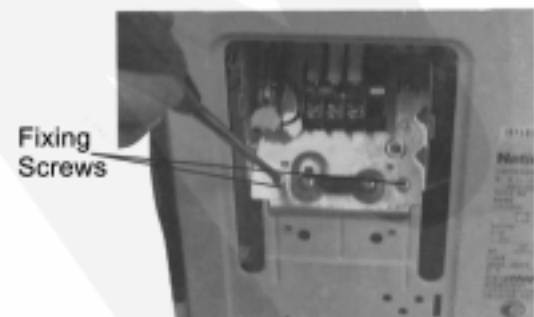

Fig 16
2. Release three fixing screws of C-BOX and all connectors and the C-BOX can be replaced. (Fig 15 , Fig 16 , Fig 17 , Fig 18)